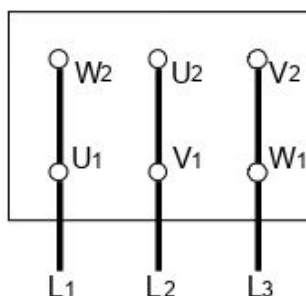

Fig. 9a. Δ - connection
- The mains connection on the tagboard depends on the nominal power of the motor, the power supply and the type of connection. The necessary connection of the bridges in the terminal box is shown in the following (**Table 1. and Fig. 9a, 9b, 9c**).